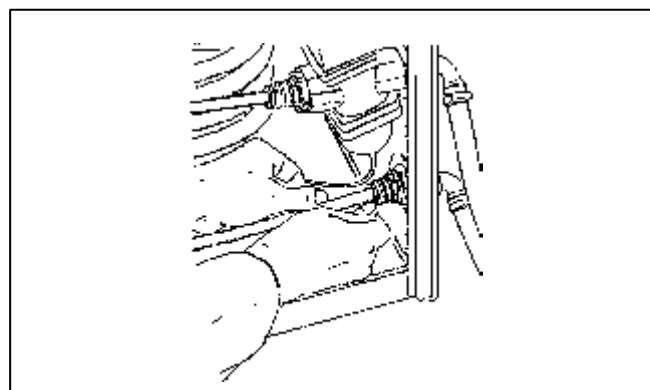

Figure 3
- Open the water valve clockwise to increase the pressure or counter clockwise to decrease the pressure (ref. Fig. 3).